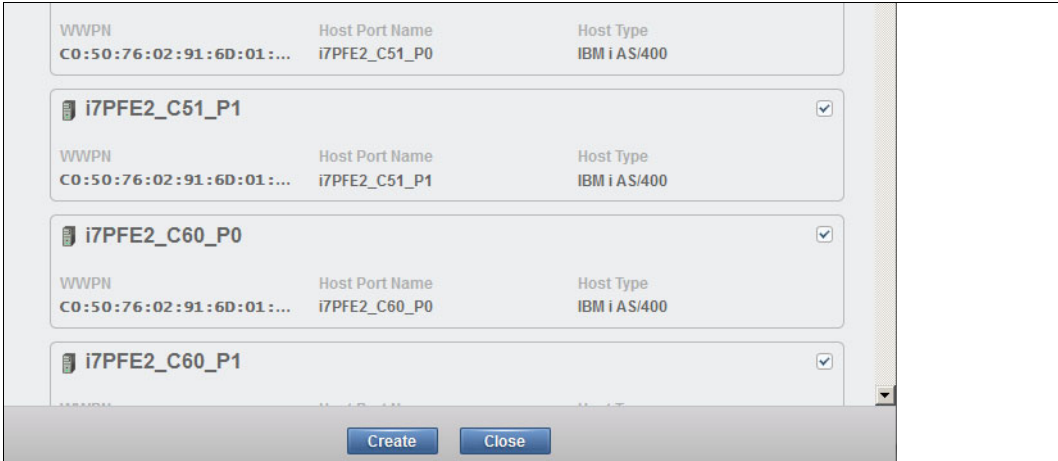

Figure 11-50 Update Unassigned Host Ports
- Click **Automatically Create Hosts**. A list of detected hosts and unassigned host ports are displayed as shown in Figure 11-50. Verify the list and click **Create** to complete the assignment task automatically.